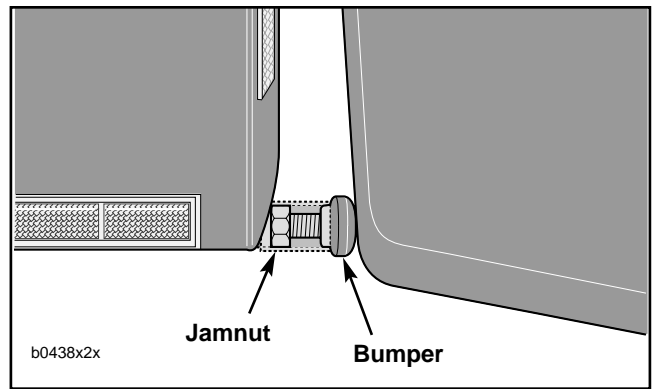

Figure 7. Saddlebag Alignment
1. See Figure 7. With saddlebags fully secured, align saddlebags by turning bumper on each saddlebag counterclockwise until it contacts saddlebag, then turn bumper an additional full turn counterclockwise. Tighten jam nut against rear saddlebag support bracket.